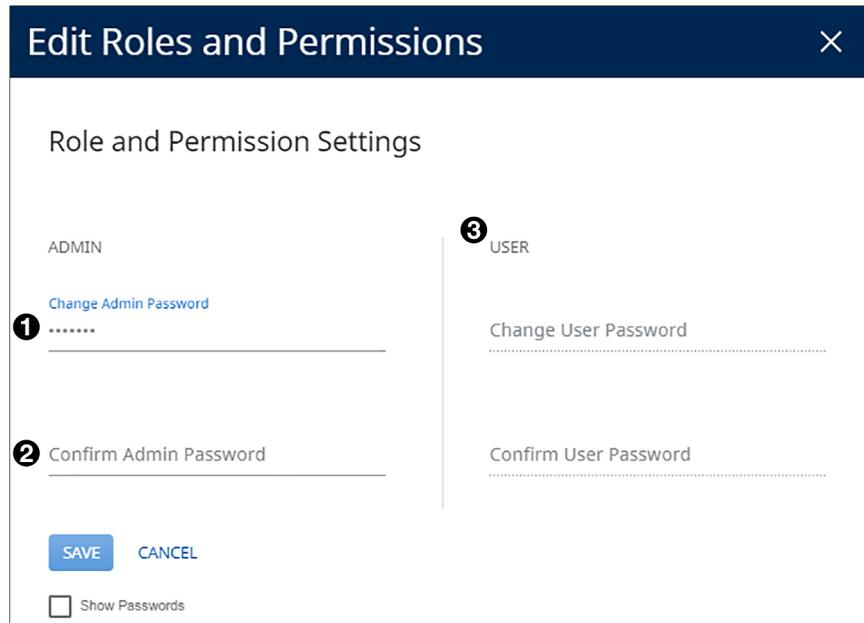

Figure 52. Passwords Dialog Box with Administrator Password Entered
2. In the Admin panel, click the **Change Admin Password** link and enter the new administrator password in the field below (see **figure 52**, **1**, on the next page).
- Click in the **Confirm Admin Password** field (see figure 52, ②) and repeat the password from the **Change Admin Password** field.